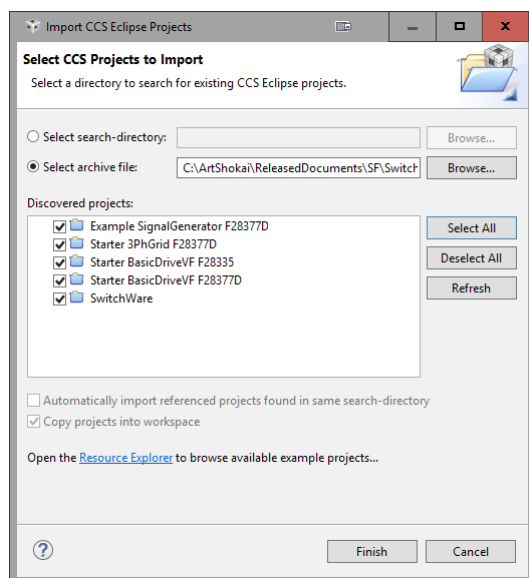

Figure 12: Importing the SwitchWare Library into CCS.
- In the **Project** menu, select the **Import CCS Projects...** menu item to show the **Import CCS Eclipse Projects** dialogue box. See Figure 12.